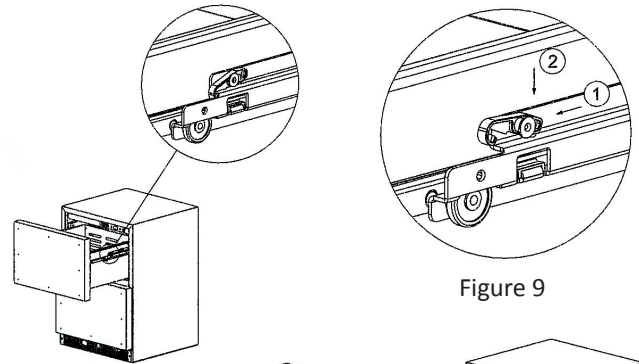

Figure 8
1. Remove drawer from the unit. Begin by pulling out the drawer. Locate the drawer lock which can be found on the outside of the cabinet slide (see Figure 7). Push the back of the drawer lock forward and then down, releasing the drawer from the cabinet slide (see Figure 8). Repeat this on the opposite side of the drawer. Lift the drawer up from the slides at a 90 degree angle to fully extricate the drawer from the cabinet (See Figure 9).